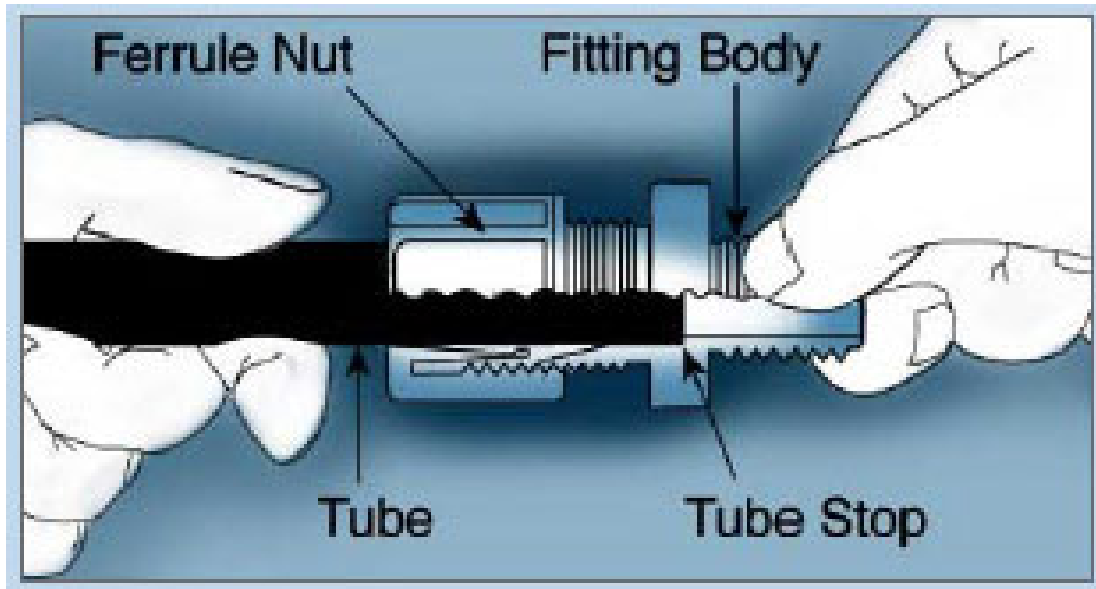

Figure 7 - Fitting Installation
22. Seat the tube into the fitting body, ensuring that the tube is touching the tube stop. (Figure 7)